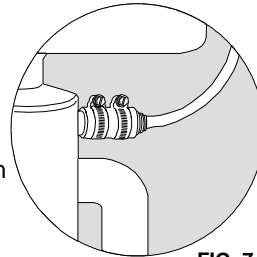

FIG. 7
4. Follow instructions 5, 6, & 10 of Configuration – A to complete the installation. (Only the “cut branch” will be used in instruction 6, discarding the leftover section of adapter. (See Fig. 7)